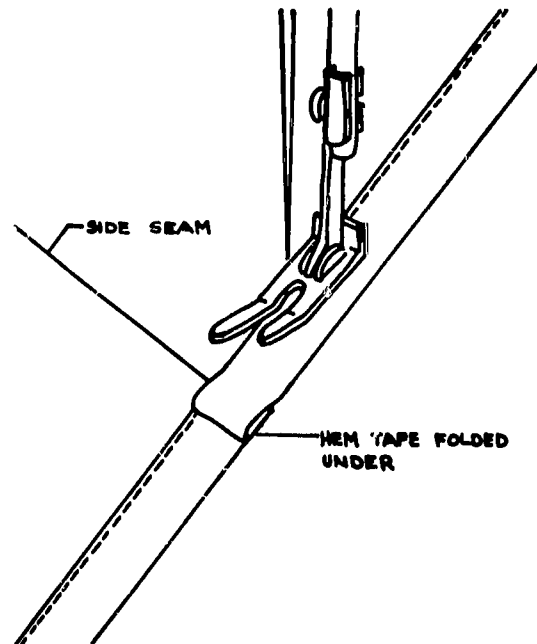

Figure 13.
11. Turn the tape under at the seam where the tape meets to give a neat, finished appearance (see Figure 13).